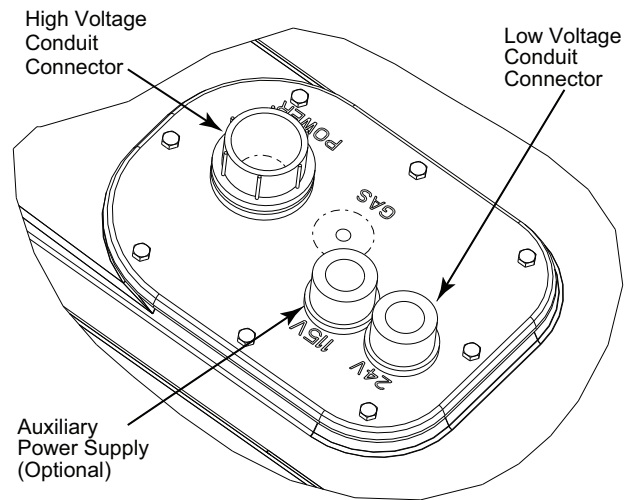

Fig. 38 — Thru-Base Connection Fittings
The 3/4 in. bulkhead connector enables the low-voltage control wires to pass through the basepan. The 1/2 in. bulkhead connector allows the high-voltage power wires to pass through the basepan. See Fig. 38.
3. Place the gasket over the embossed area in the basepan, aligning the holes in the gasket to the holes in the basepan. See Fig. 38.